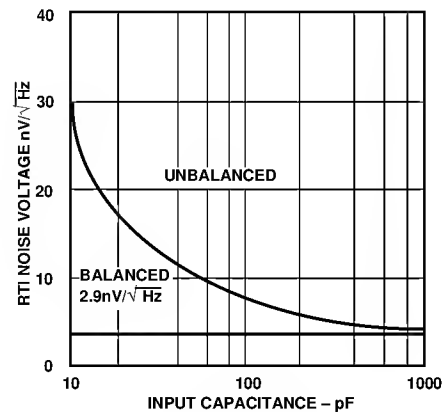

Figure 39. RTI Noise Voltage vs. Input Capacitance
As mentioned previously, it is good practice to balance the source impedances (both resistive and reactive) as seen by the inputs of the AD 745. Balancing the resistive components will optimize dc performance over temperature because balancing will mitigate the effects of any bias current errors. Balancing input capacitance will minimize ac response errors due to the amplifier's input capacitance and, as shown in Figure 39, noise performance will be optimized. Figure 40 shows the required external components for noninverting (A) and inverting (B) configurations.